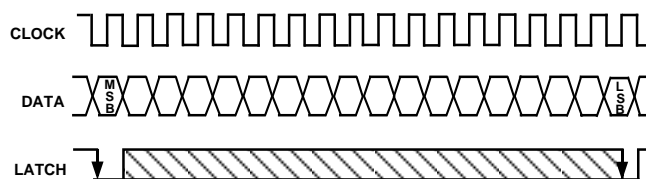
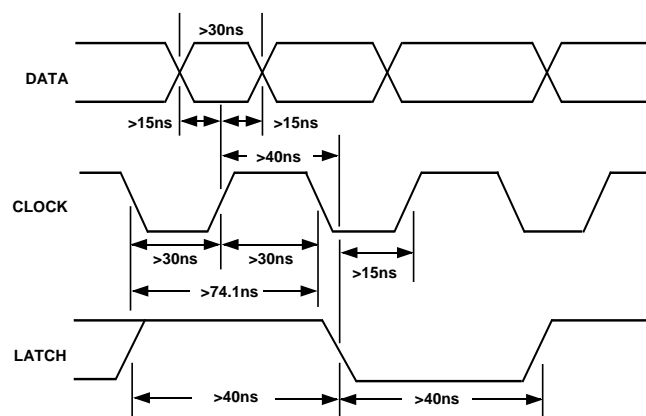

Figure 7. Signal Requirements for AD1861
Figure 8. Timing Relationships of AD1861 Input Signals
Data is transmitted to the AD1861 in a bit stream composed of 18-bit words with a serial, MSB first format. Three signals must be present to achieve proper operation. They are the Data, Clock and Latch Enable (LE) signals. Input data bits are clocked into the input register on the rising edge of the Clock signal. The LSB is clocked in on the 18th clock pulse. When all data bits are loaded, a low-going Latch Enable pulse updates the DAC input. Figure 7 illustrates the general signal requirements for data transfer to the AD1861.
Figure 8 illustrates the specific timing requirements that must be met in order for the data transfer to be accomplished properly. The input pins of the AD1861 are both TTL and 5 V CMOS compatible. The input requirements illustrated in Figures 7 and 8 are compatible with data outputs provided by popular DSP filter chips used in digital audio playback systems. The AD1861 input clock can run at a 13.5 MHz rate. This clock rate will allow data transfer rates for 2x, 4x or 8x or 16x oversampling reconstructions.